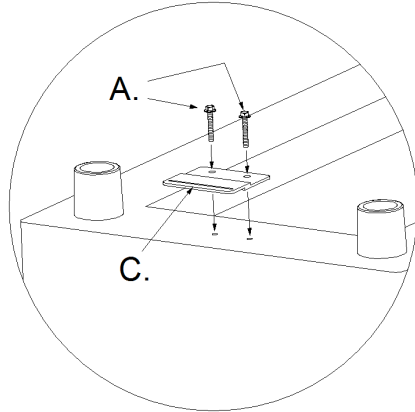

Fig. 1A, Female Plate Attachment
**Step. 1** Per the room layout for the Await units, attach either a male, or female, ganging plate(s) to the bottom edge of the units in the designated hole locations. Refer to Figures 1A & 1B for attachment illustrations. (ex. 461-1B, 1-unit Bench)